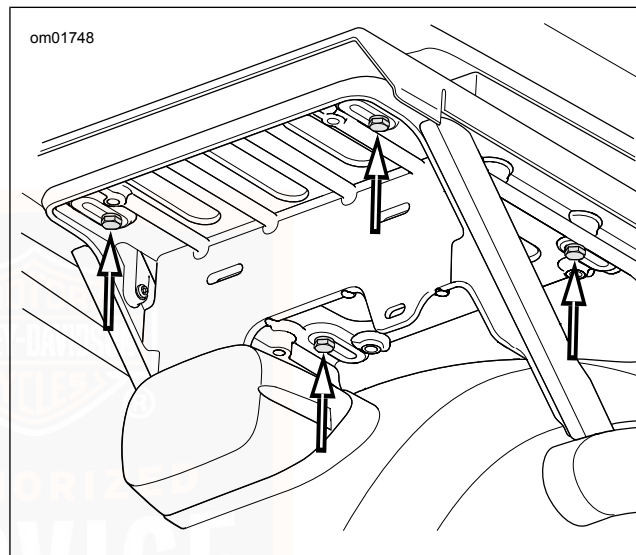

Figure 61. Tour-Pak Bracket Screws (APC Models)
1. See Figure 61. Remove the four screws securing the Tour-Pak bracket to the support.